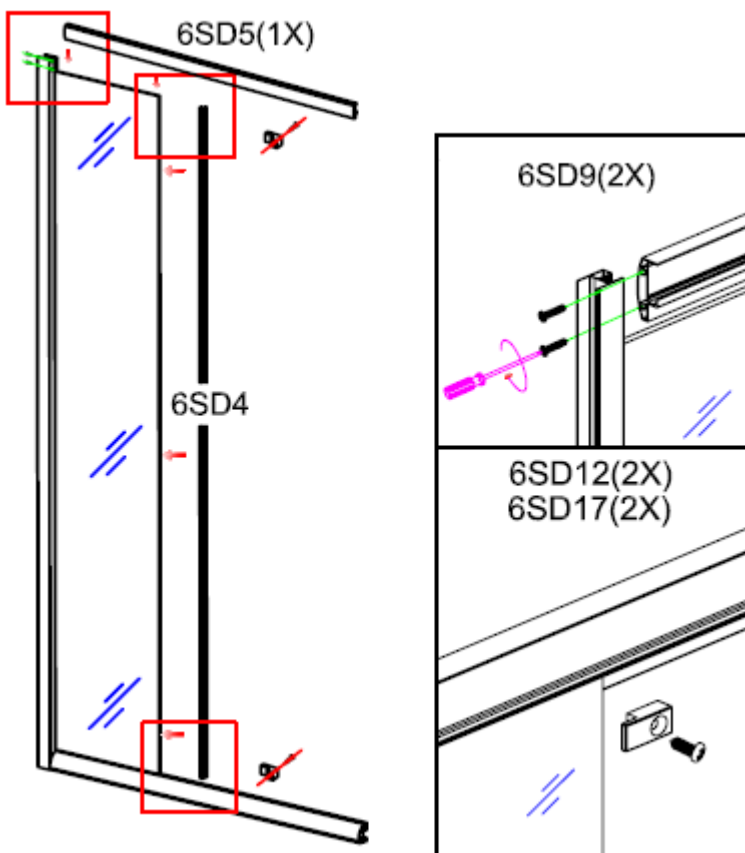

Figure 6
6. Click the strip(6SD4) onto the fixed panel,fasten the top rail profile(6SD5) with the fixed profile. Install the roller stopper(6SD17) with screw(6SD12),as showed in figure 6.